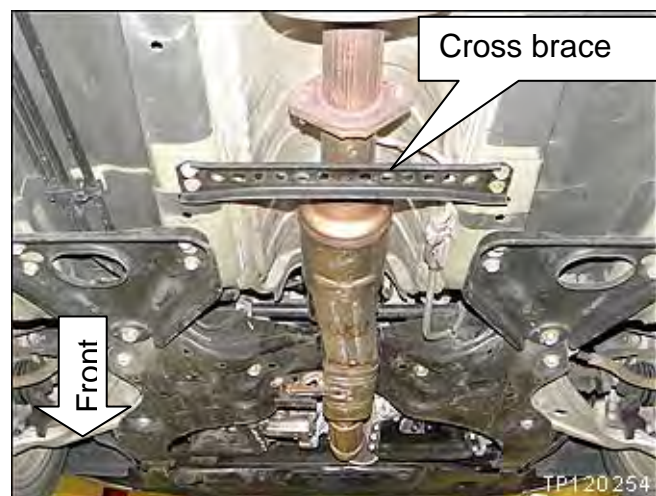

Figure T2
3. Remove the cross brace shown in Figure T2.